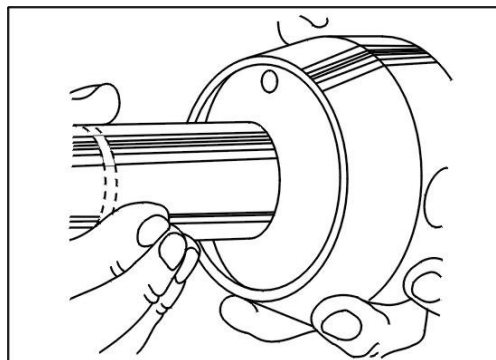

Figure 11 Removing the Coalescing Tube
3. Remove the entire Service Module by simply pulling the Coalescing Tube (whilst intact) from the Cap of the Filter. See Figure 11.